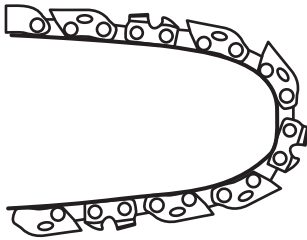

Fig. 8b
c). Check the chain tension using one hand to lift the saw chain (D6) against the weight of the product. The correct chain tension is achieved when the saw chain can be lifted by approx. 2-4mm from the guide bar (D7) in the centre. (See Fig. 8b, 8c)